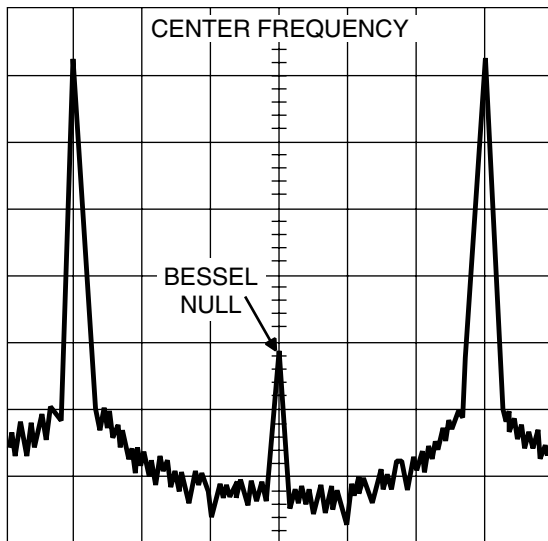

Figure 4-12. Typical Spectrum Analyzer Display of Bessel Null on ΦM Waveform
- e. While observing the first Bessel null (Figure 4-12) on the Spectrum Analyzer display, adjust the value of the DAC's setting to reduce the carrier level as low as possible.
- d. While observing the first Bessel null (Figure 4-12, page 4-42) on the Spectrum Analyzer display, adjust the value of the DAC's setting to reduce the carrier level as low as possible.
- e. While observing the first Bessel null (Figure 4-12, page 4-42) on the Spectrum Analyzer display, adjust the value of the DAC's setting to reduce the carrier level as low as possible.